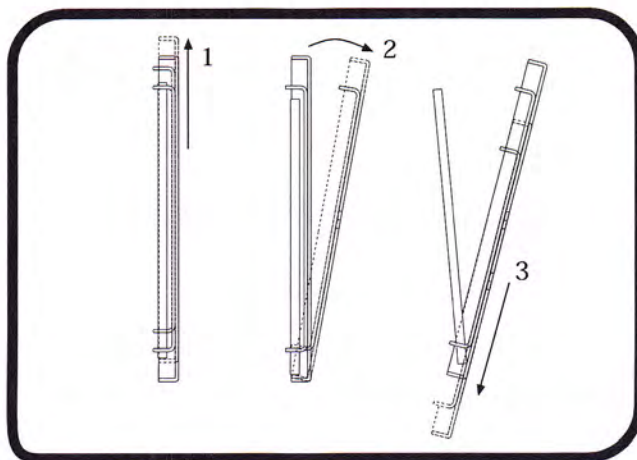

Fig. 11
- Remove the front door, carefully pushing it upward (fig 11).